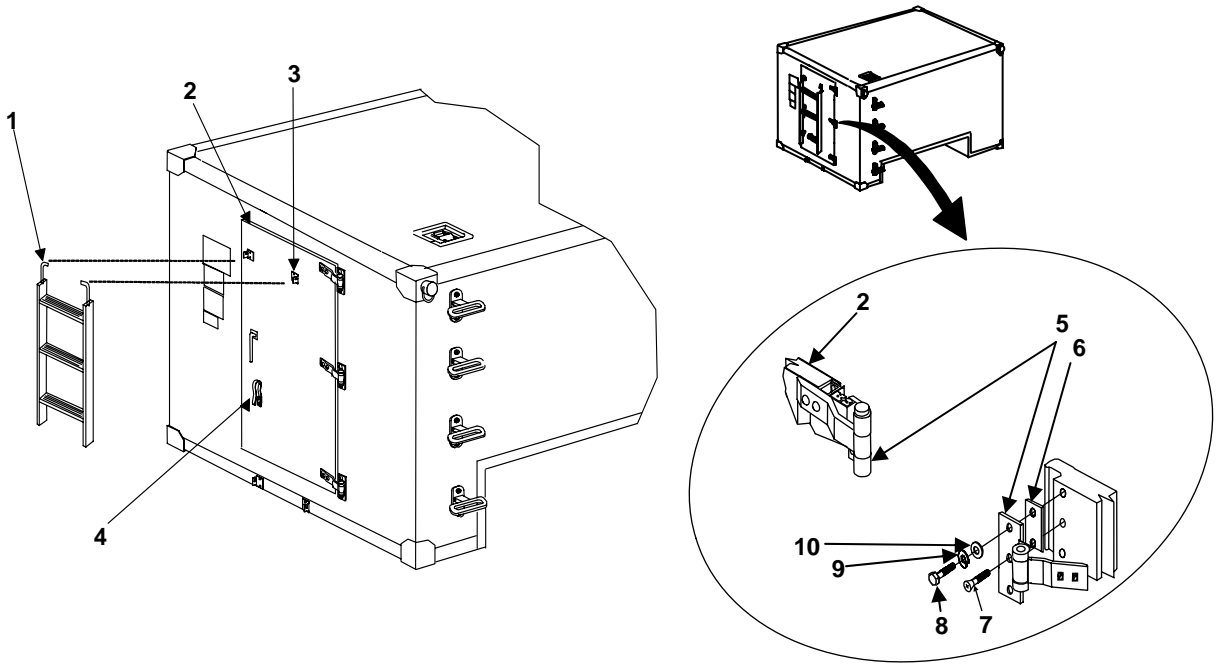

Figure 1. Shelter Door
1. At the shelter door (figure 1, item 2), loosen strap (figure 1, item 4) and remove ladder (figure 1, item 1).
2. Open shelter door (figure 1, item 2).
5. Open door, and remove bolts (figure 1, item 8), lock washers (figure 1, item 9), and flat washers (figure 1, item 10). Retain bolts and washers for replacement door installation.
6. Remove screws (figure 1, item 7). Retain screws for replacement door installation.
7. Remove the door (figure 1, item 2).
8. Remove shims (figure 1, item 6) from behind hinge assembly (figure 1, item 5). Retain shims for replacement door installation.
10. Remove stowed ladder brackets (figure 1, item 3) in accordance with WP 0029 00. Retain
11. Remove ladder strap assembly (figure 1, item 4) in accordance with WP 0019 00. Retain ladder strap assembly & attaching parts for replacement door installation.